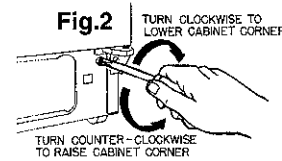

Fig. 2
- Refrigerator models that have adjustable wheels can be leveled by removing the base grille and adjusting the wheels with a screwdriver (see Fig. 2). To lock the cabinet in place, turn down one or both locking feet, located near the front wheels. Rear leveler feet are not required.